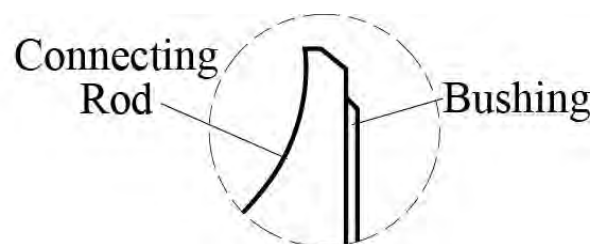

Figure 8
- (2) If the chamfer of the connecting rod and the chamfer of the connecting rod bushing do not align (Figure 8), the connecting rod bushing has moved within the connecting rod. Remove, discard, and replace the connecting rod bushing. Contact Lycoming Engines' Product Support at +1 (877) 839-7878 (Toll Free) or +1 (570) 327-7222 or email Technicalsupport@lycoming.com.